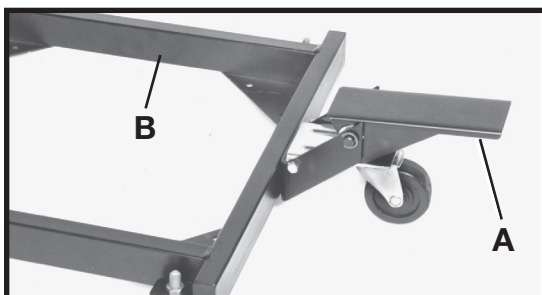

Fig. 7
1. To raise the mobile base (B) Fig. 7 (to allow the machine to move), push foot lever (A) downward until it locks into position.
2. To lower the mobile base (B) Fig. 7 (to lock), move foot lever (A) upward.